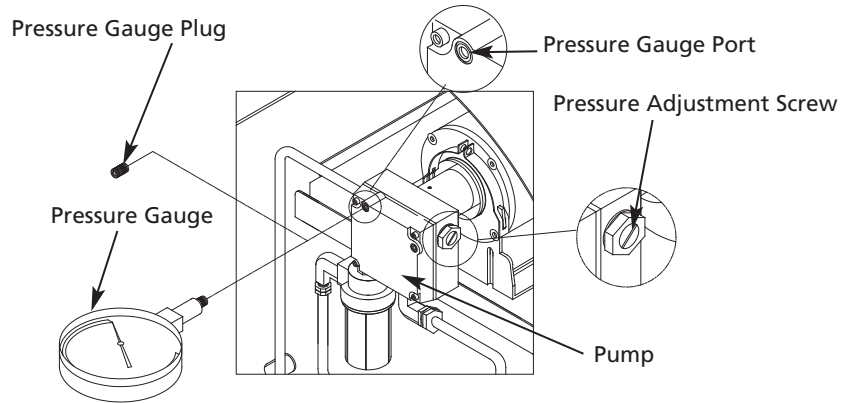

Figure 20 – Adjusting Pump Pressure
- Install accessory pressure gauge to pressure gauge port (See Figure 20).